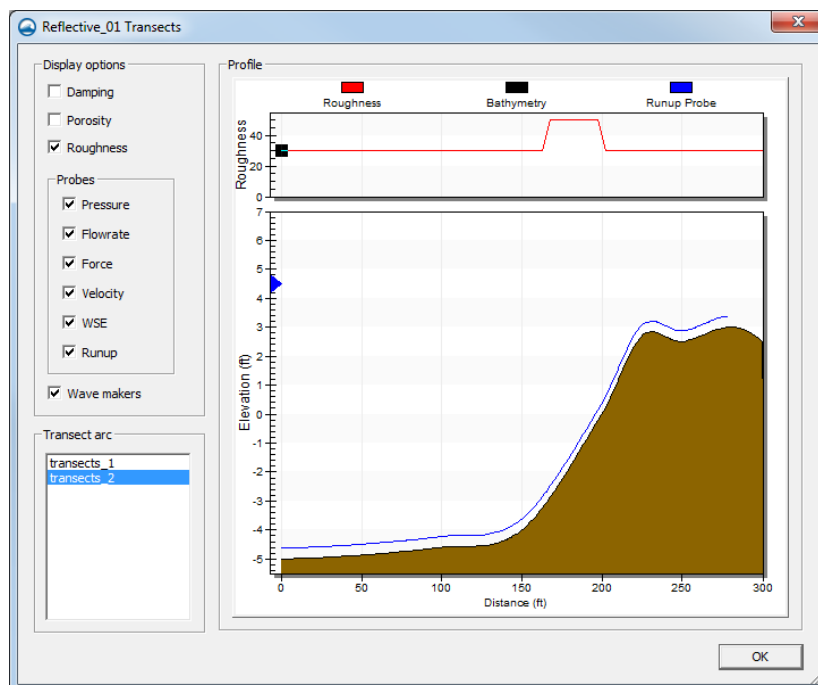

Figure 9 Changing roughness along transect_2
- In the *Transect arc* section, select “transect_2” and note the plot along the top of the *Profile* section showing the changing Chezy roughness value (Figure 9).